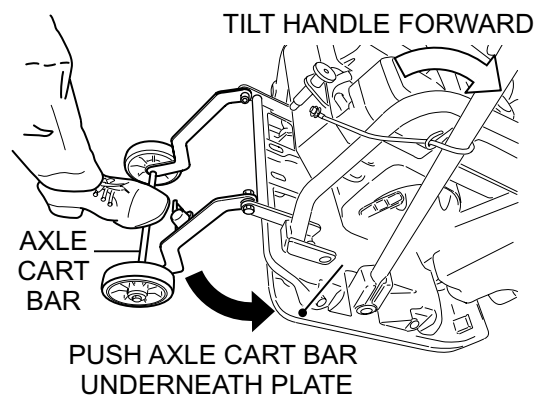

Figure 12. Positioning Axle Cart Bar (Transport)
- Place foot on top of axle cart bar (Figure 12) and push upward on the handle body, then tilt compactor forward until both wheels are positioned underneath the compactor plate.